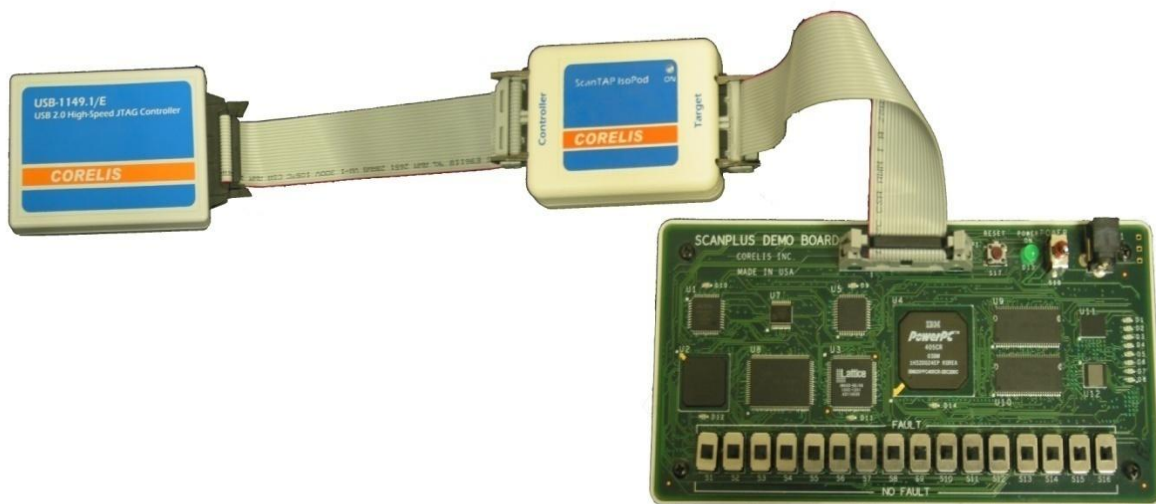

Figure 4: Test Setup Using the ScanTAP IsoPod
The procedure for integrating the ScanTAP IsoPod into an existing test setup or a new one is simple. There are three major components to the test setup: (1) a Corelis boundary-scan controller, (2) a ScanTAP IsoPod unit, and (3) a target UUT. Follow the instructions below to integrate the ScanTAP IsoPod into a test setup. Figure 4 below shows a typical test setup where the ScanTAP IsoPod is placed in series between the controller and the UUT.